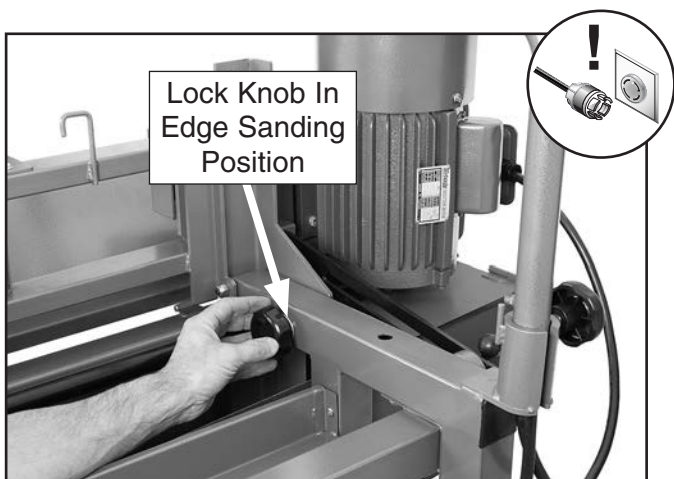

Figure 44. Lock knobs in edge sanding position.
9. Replace the belt tilt lock knobs into the edge sanding position (**Figure 44**).